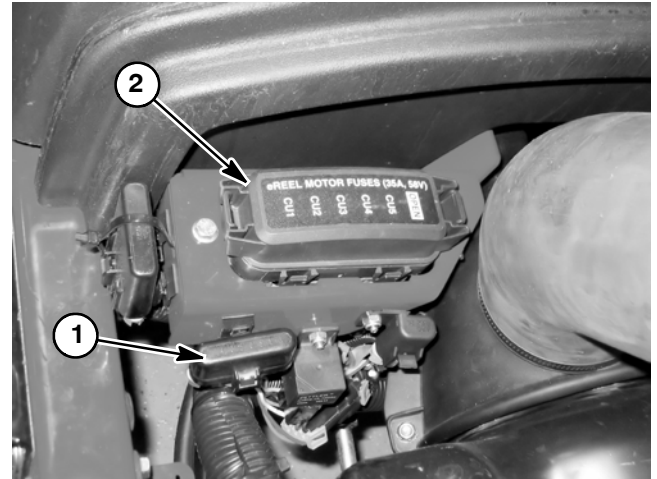

Figure 66
The location ID module exists in the 48 VDC electrical circuit to identify the location of the five (5) cutting reel motors. This module allows such machine features as starting and stopping the rear cutting units slightly later than the front cutting units. The location module plugs into the main wire harness near the 48 VDC fuse block (Fig. 66).
4. Locate location ID module secured to the frame near the 48 VDC fuse block (Fig. 66).